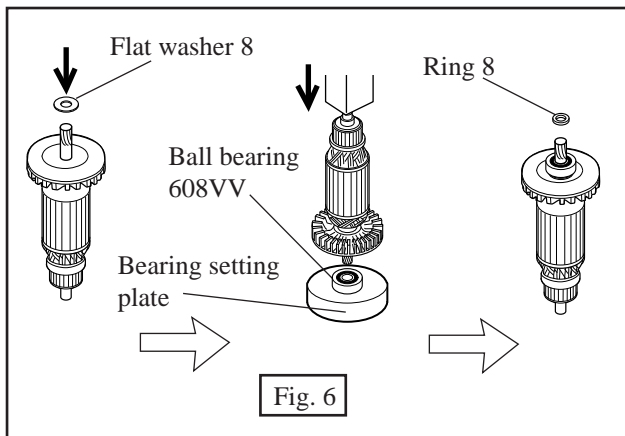

Fig. 6
- (1) Mount flat washer 8. And mount ball bearing 608VV with arbor press, and ring 8. See Fig. 6.